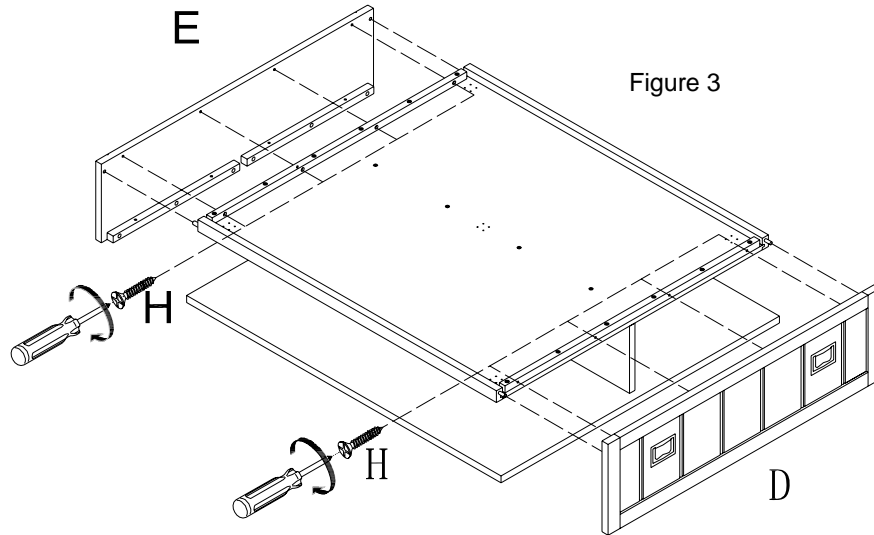

Figure 3
3. Align the pre-drilled holes on the Front/Rear Panels (D&E) to the wooden dowels on the Bottom Panel (C). Insert (8) Long Wood Screws (H) through the Bottom Panel (C) and into the Front/Rear Panels (D& E). Tighten using Phillips Head Screwdriver. (Figure 3, next page)
4. Attach Front/Rear Panels (D&E) to the Top Chalk Panel (A) with (8) Long Wood Screws (H) from interior of the Storage Cart. (Figure 4) Tighten all connections using Philips Screwdriver (not included). (Figure 3 and 4)